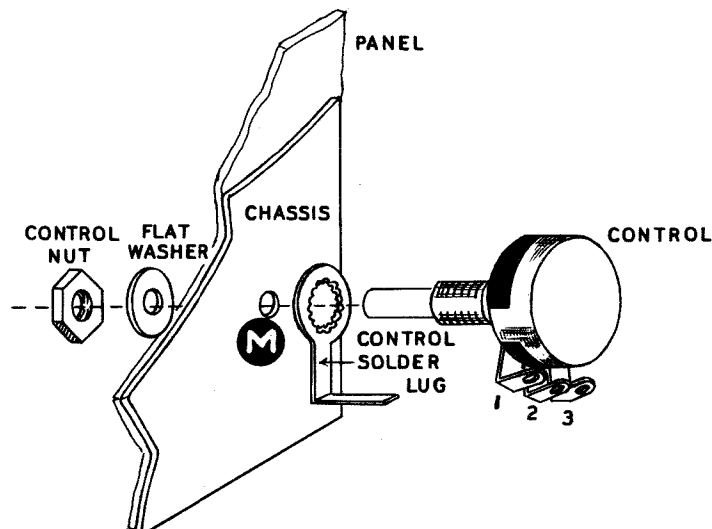

Figure 4
(N) Take the control solder lug, bend and form as shown in Detail 2 and cut off $\frac{3}{8}$ ". Place the solder lug on the control and insert the control through hole (M) of the chassis and then through the front panel. Place a $\frac{3}{8}$ " flat washer and a $\frac{3}{8}$ " nut on the front. See Figures 4 and 5. Do not tighten. Line the control solder lug up with terminal #1 (S).